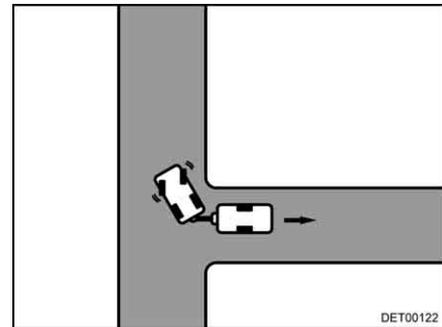

Fig. 15 Steer to the right
- Steer to the right and reverse with caution (Fig. 15).